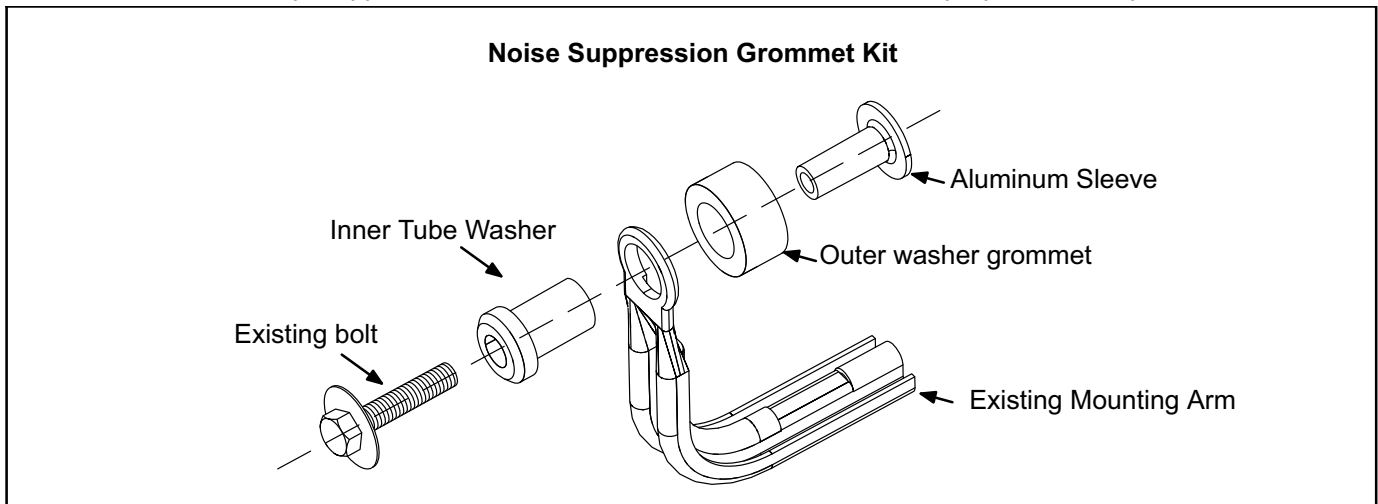

Figure 2
- 16 -Slide the aluminum sleeves provided into each grommet assembly such that the flat portion of each sleeve will rest against the scroll side of the blower. Figure 2 shows the noise suppression kit.